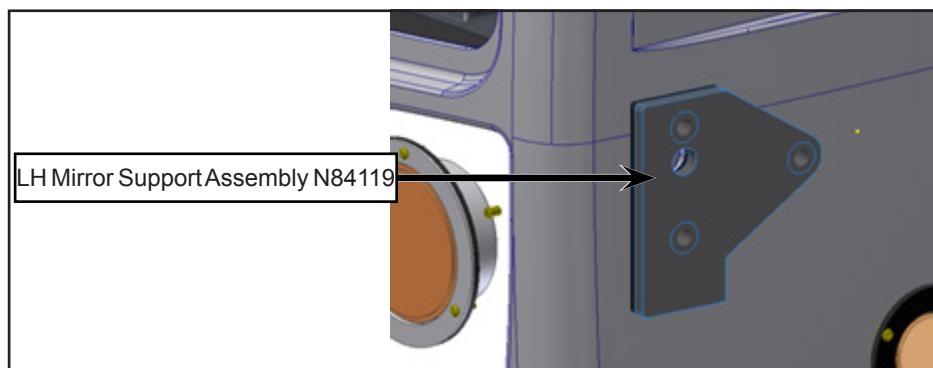

*Figure 24 - Installation of N84119*
- 1.28. Install LH mirror support assembly N84117 onto the gasket (see Figure 24).